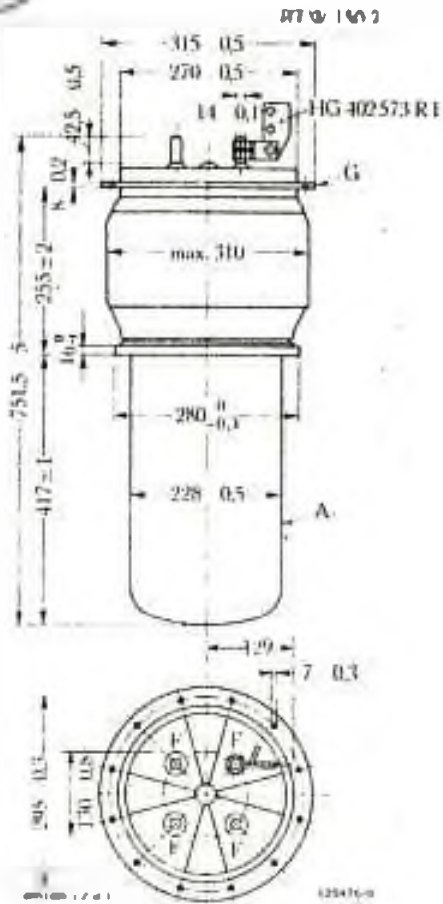
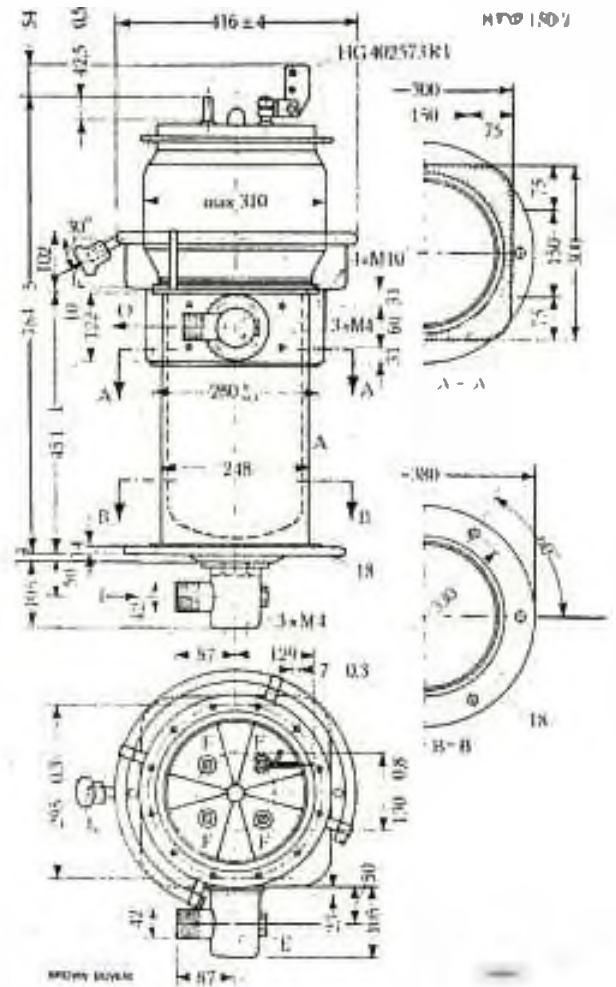

Fig. 1 BTW 150-2
Fig. 2 BTW 150-2
**Mounting:** The power triode should be mounted vertically, the heater terminals (P) directed upwards; the deviation from the vertical being not more than 2 mm/m. Provision should be made to prevent subjecting the tube to appreciable vibration. The heater pins of the tube should be provided with connectors, having cooling vanes such as Brown Boveri HG 402573 R1 (fig. 1) in which a flexible stranded lead or a flexible metal strip has to be carefully connected. These connections, as well as the similar ones to the concentric grid terminal, should be of ample cross-section to prevent excessive heat production at high frequencies. All connections to grid and cathode must not be oxidized, should be clean and make good electrical contact. Otherwise, even with very small contact resistances, high voltage drops will occur with the relatively large currents involved. The heater pins and the ring are silverplated to provide first class electrical contact. Previous to making the connections, these terminals should be polished, but only with a soft cloth (but never with emery-paper). If necessary cleaning of the contacts may be carried out by means of industrial spirits on the cold tube. No mechanical strains should be imposed on the seals of the pins and the gridring. The installations of all wires and connections must be made so that they are flexible and will not be close to, or touch, the bulb. This precaution is necessary to avoid puncture of the glass from corona discharge.
The BTW 150-2 (fig. 1) must be operated only with the water cooling jacket type W 150A (fig. 2) in which the tube should be mounted with its anode pointing downwards.
- a) By blowing a stream of cooling air (of about  $Q = 0.5 \text{ m}^3/\text{min}$  and  $p \approx 90 \text{ mm H}_2\text{O}$ ) through both inlets ( $I_1$ ) to the cooling-air ring bolted to the cooling jacket (fig. 2.) The air leaves the ring through an annular series of small inner openings and the resultant air blast effectively cools the glass bulb and the grid ring.